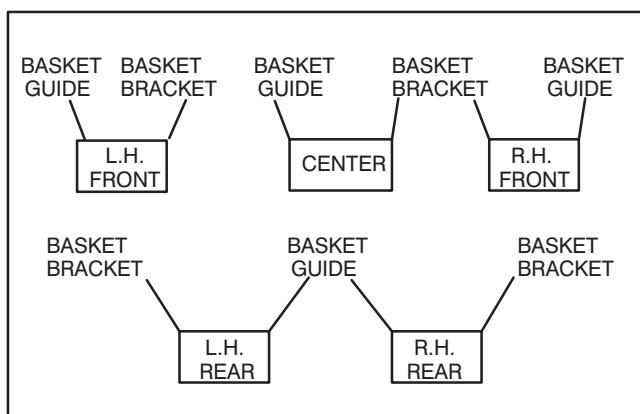
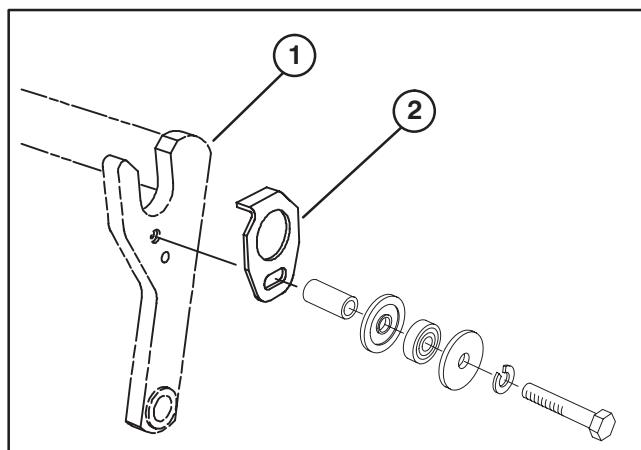
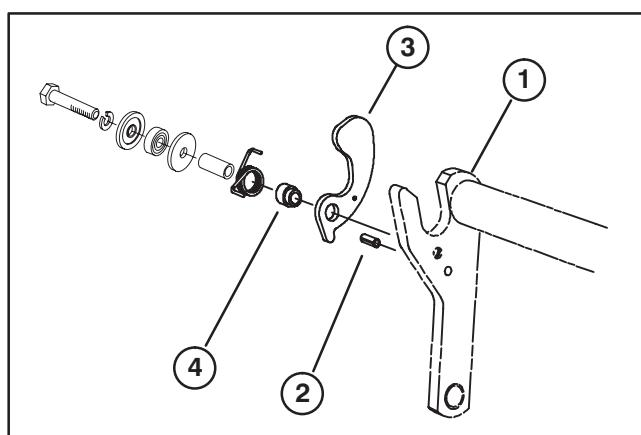
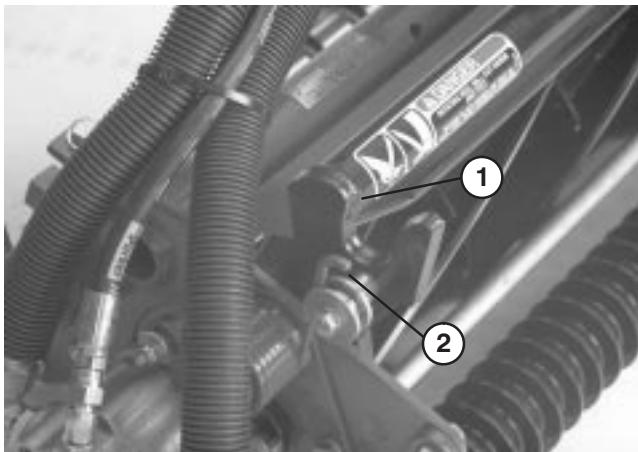

Figure 5
Figure 6
Figure 7
Figure 8
2. If baskets will be installed, use chart below (Fig. 5) to determine locations at which basket guides or basket brackets must be mounted to cutting unit carrier frames. If baskets are not to be installed, proceed to step 7.
- 3.** Remove hardware securing Turf compensation kit to each end of carrier frame (Fig. 6 & 7) and reuse when installing basket guides and basket brackets.
4. Mount a basket guide (Fig. 6) to the appropriate side of each cutting unit carrier frame (see figure 7) with a 5/16-18 x 1-3/4" lg. capscrew, flatwasher and lockwasher or fasteners previously removed, as shown in figure 6.
- 5.** Install a roll pin (Fig. 7) into hole in appropriate side of each cutting unit carrier frame (Fig. 5).
6. On the same side of carrier frame as roll pin is installed, mount a basket bracket with a 5/16-18 x 1-3/4" lg. capscrew, lockwasher, flatwasher, torsion spring, basket collar or fasteners previously removed, as shown in figure 7. Torsion springs are different for L.H. and R.H. sides of carrier frames. Three are (2) L.H. and (3) R.H. springs. Longer leg of spring is to be positioned forward as shown in Fig. 8.